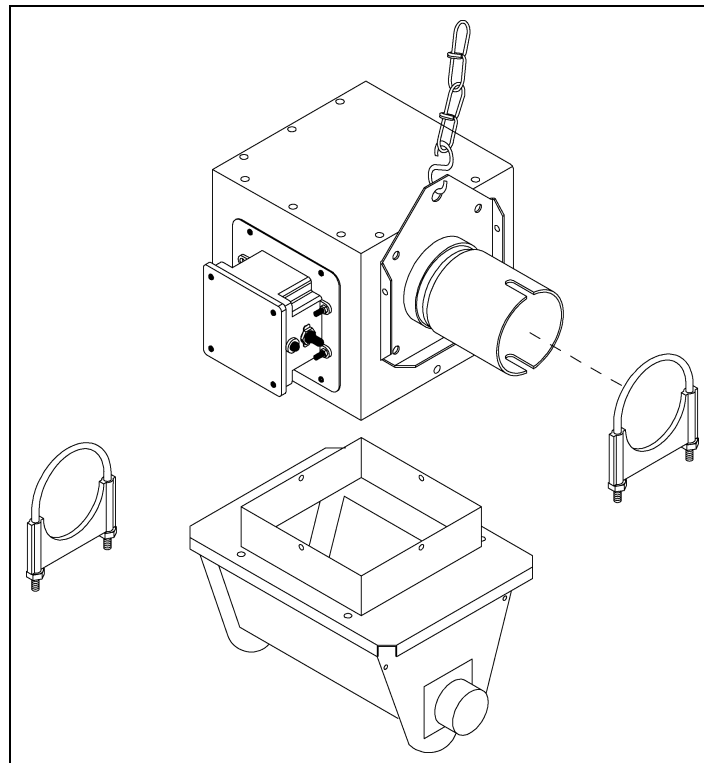

Figure 5Y Extension Hopper
2. Suspend the top section from the ceiling as shown in Figure 5Y. Support holes are provided on the top section for mounting. When mounting, make allowance for future adjustments of the top section after the bottom section has been connected.